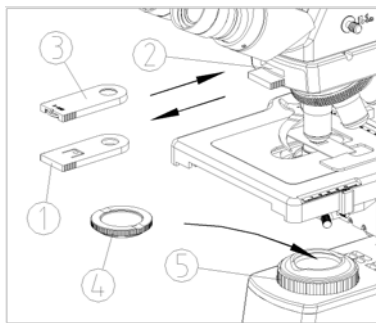

Fig. 26
(1) Remove the dust-cover ① from the filter slot ② and insert the 360° rotatable analyzer ③ into the slot ②. (See Fig. 26)
(2) Place the polarizer ④ into the light well ⑤.
(3) Rotate the 360° rotatable analyzer ③ to achieve polarizing observation.